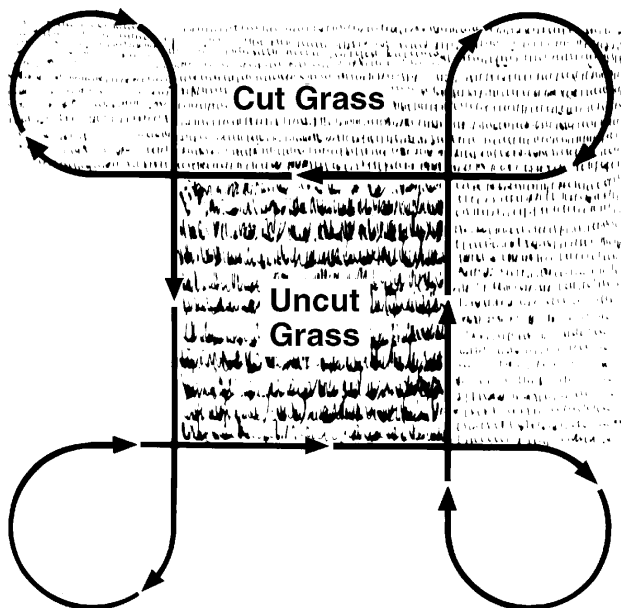

Figure 56
4. Follow the mowing pattern shown in Figure 56.